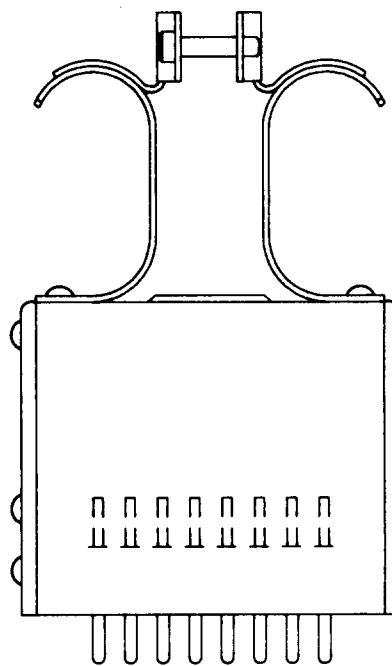

Fig. 3—KS-14554, L2 Connector
- (b) **KS-14554, L2:** The KS-14554, L2, connector (Fig. 3) is equipped with a cover which has a combination handle and cable clamp at the top. The clamp is suitable for a 1/2-inch diameter cable. The L2 is used with networks in the amplifiers of the A2 video equipment and the T3 and T4 television terminals to provide connections for the J44104R vacuum tube set when testing vacuum tubes.